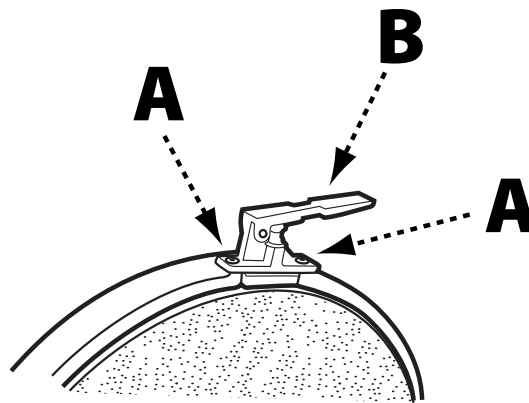

FIGURE 2
- Refer to Figure 2 and remove the 2 hex screws (A) from the disc housing using the 2.5mm Allen wrench supplied.
- Align the screw holes in the brake lever assembly (B) with the holes in the disc housing and secure using the hex screws removed in Step 1.